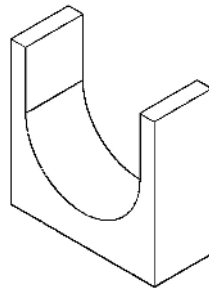

Fig. 2: IGT U-form Delamination viewer
- 3.2. Assess the test strip and mark the point where delamination begins. See fig. 2.